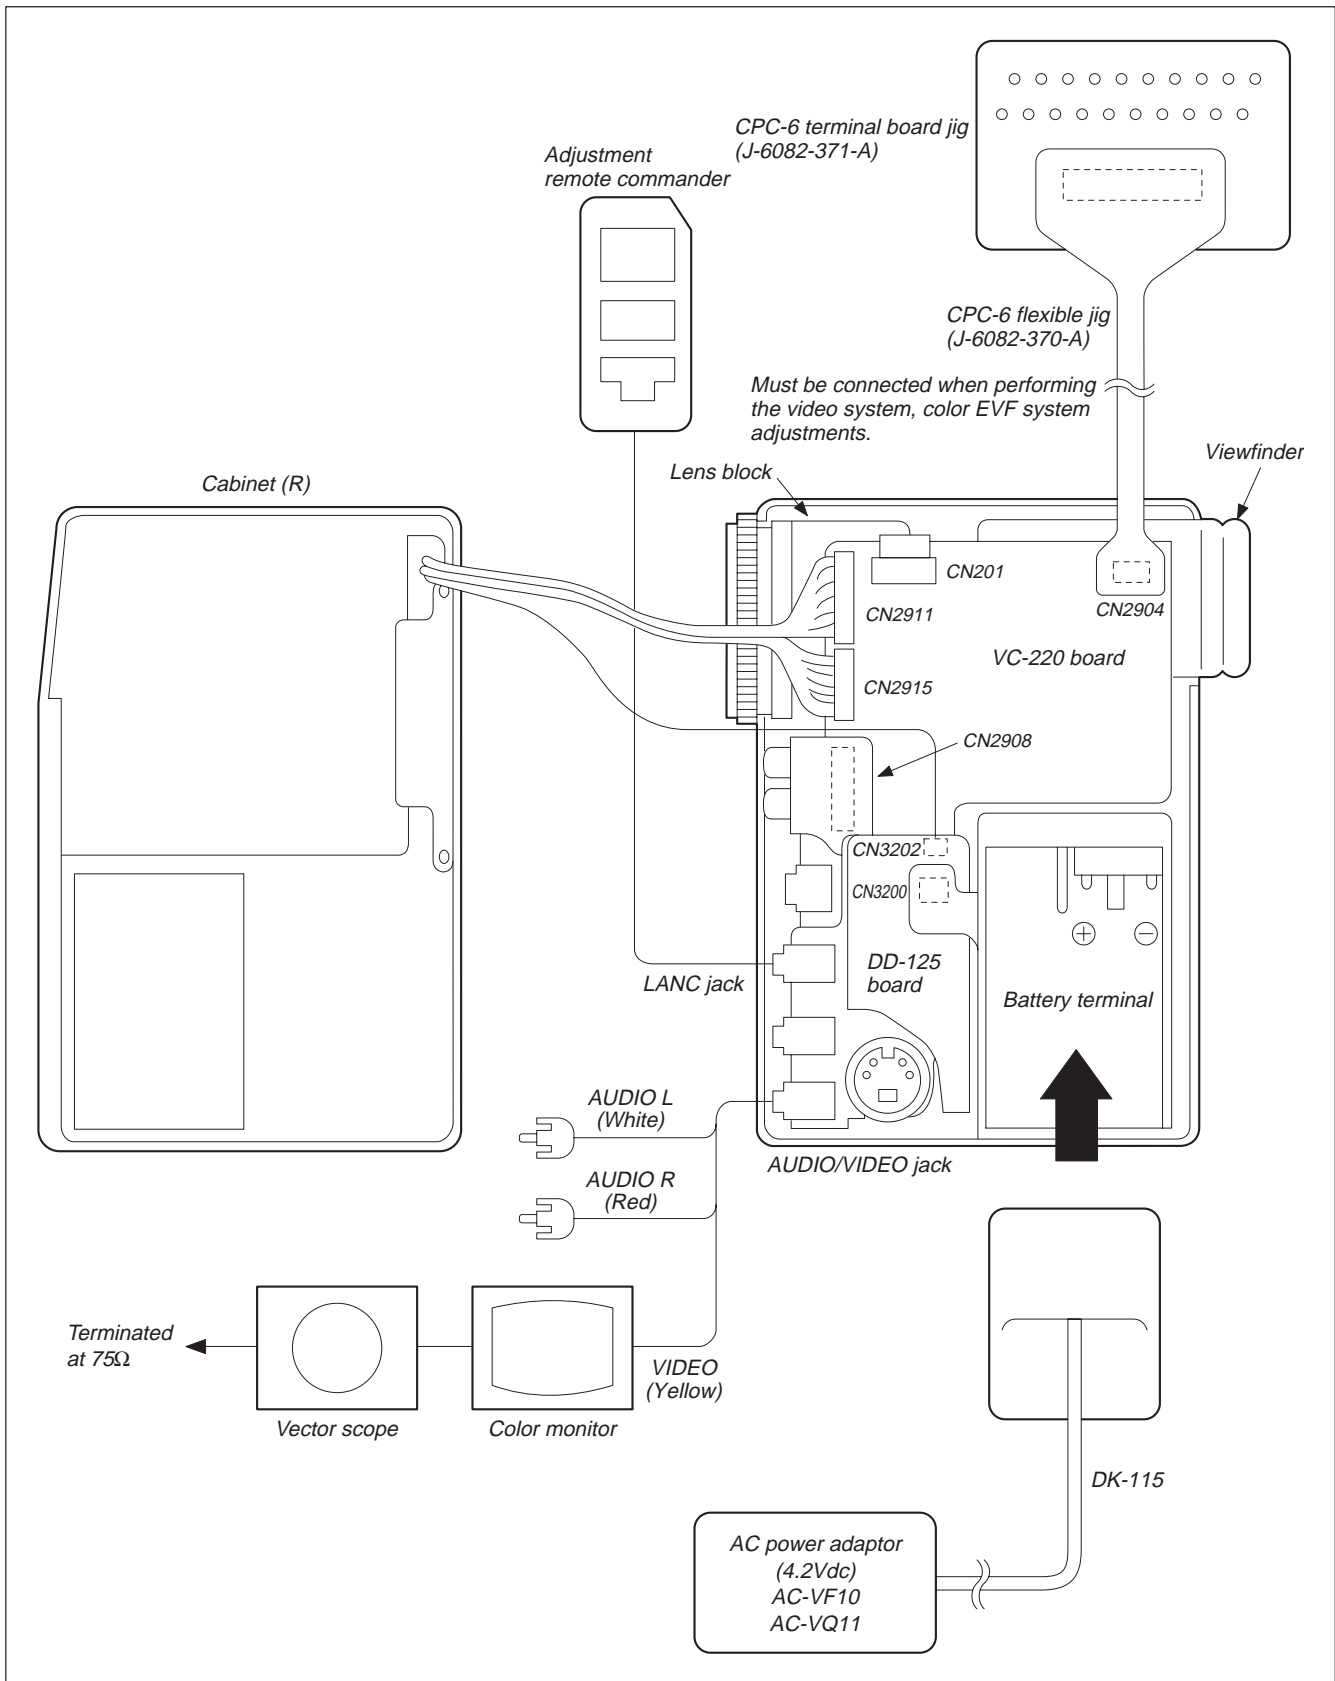

Fig. 5-1-3
- 1) Connect the equipment for adjustments according to Fig. 5-1-3.
- 3) The cabinet (R) (LCD block and touch panel) need to be connected for the camera function setting. To remove the cabinet (R), disconnect the following connectors.